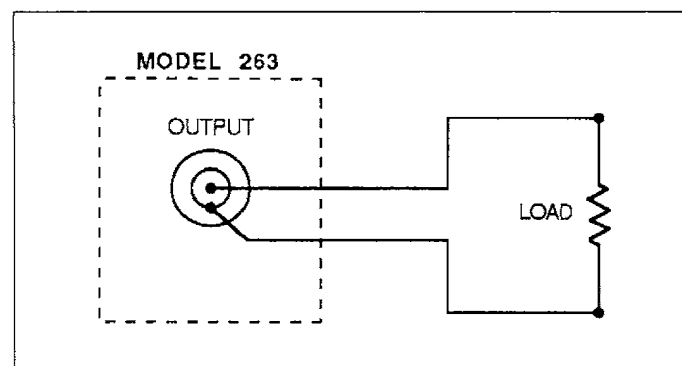

Figure 3-23. Sourcing to a Load
- C. To source voltage to a load, connect source HI to one side of the load and source LO to the other side as shown in Figure 3-23.
- C. To source current to a load, connect the output of the Model 263 to the load as shown in Figure 3-23. If sourcing to a high impedance load, cable leakage currents may be large enough affect load current. In